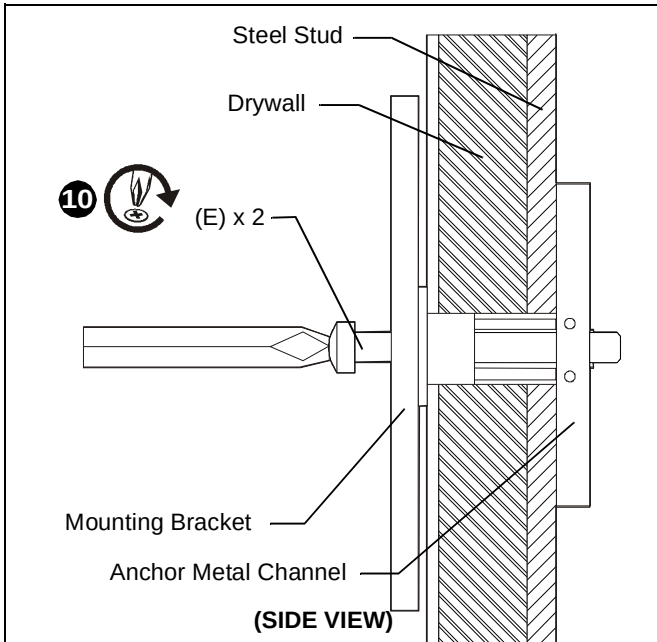

Figure 13
9. Place mounting bracket over anchors and align mounting holes in mounting bracket with holes in anchors. (See Figure 13)
10. Insert 1/4-20 x 1-3/4" Phillips pan head screw (E) into mounting hole on mounting bracket and into anchor (B) and tighten until flush against mounting bracket. DO NOT overtighten! (See Figure 13)